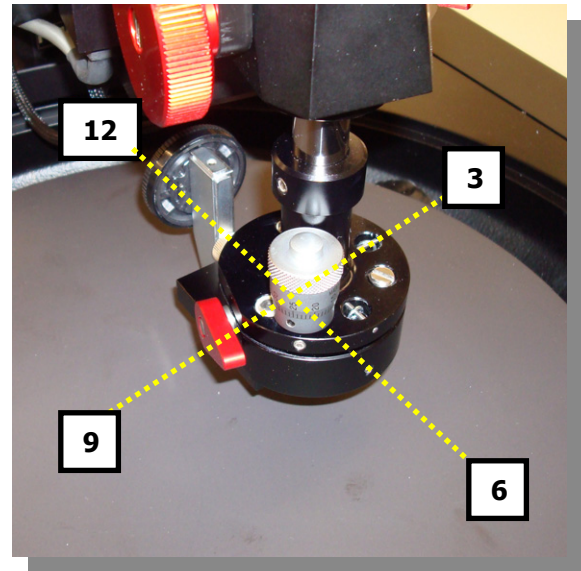

Figure 20
With the dial indicator still attached from the verification of platen run-out, loosen the oscillator linkage to swing the arm and re-position the indicator closer to the center of the platen (Figure 20).
- 2) Activate sample rotation and position the dial indicator at the 3 o'clock position on the platen (Figure 20).